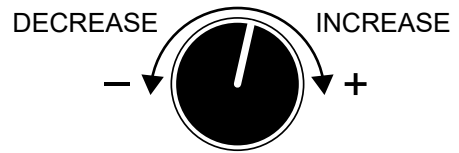

Figure 45. Voltage Regulator
- If the voltage is not within the specified tolerance, use the **voltage regulator** (Figure 45) to increase or decrease the desired voltage.